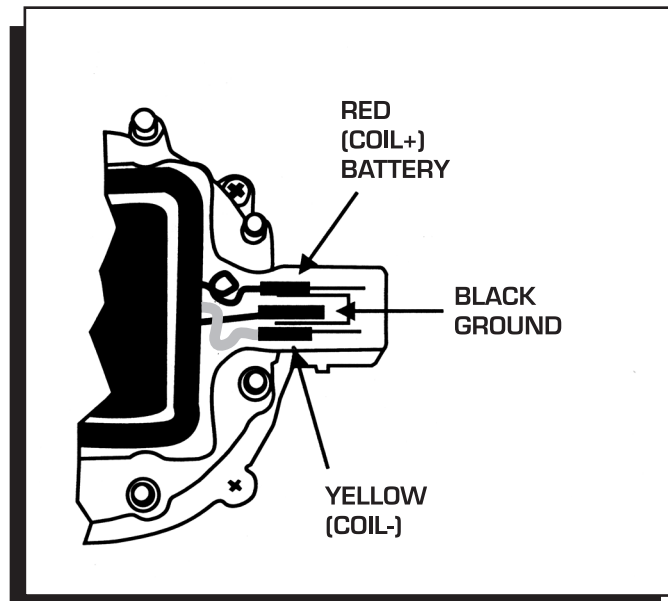

Figure 4 Installing the Coil's Wiring.
4. Install the cap and coil assembly (Figure 4).